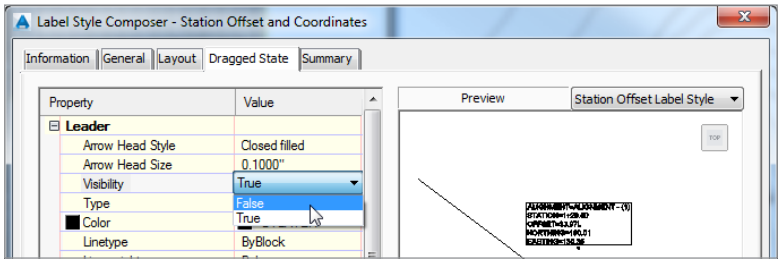

FIGURE 2.5 Changing the visibility of the leader by modifying a label style
- 7. In the Label Style Composer dialog box, click the Dragged State tab. Change the Visibility value for the leader to False, as shown in Figure 2.5.